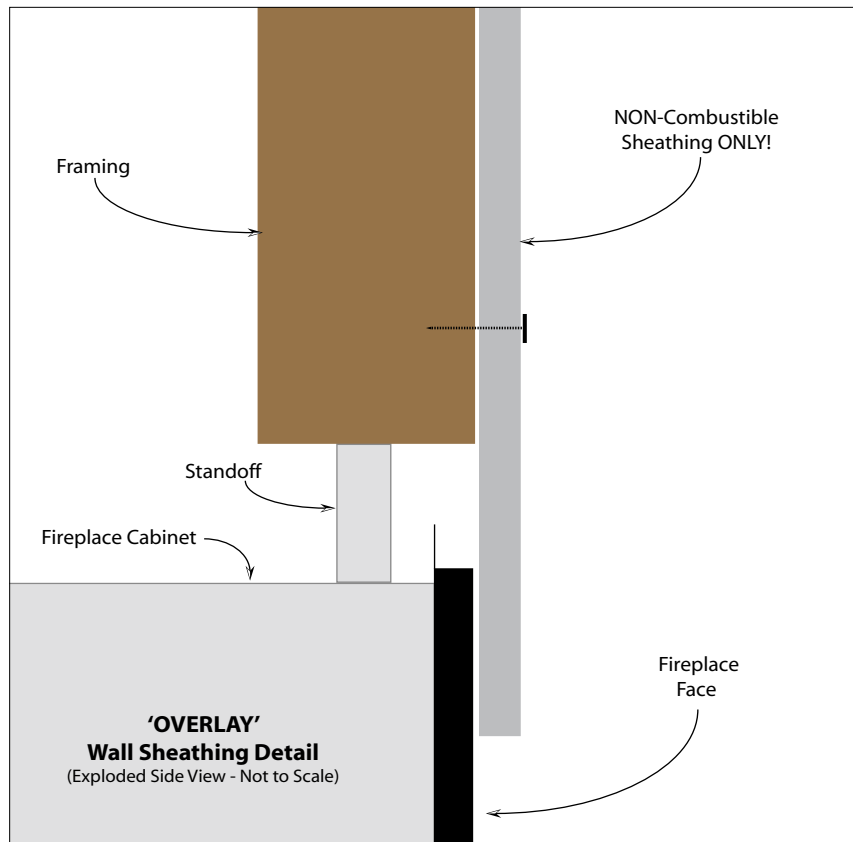

Figure 2
1) The most popular method of finishing your installation is the **Overlay** style (Figure 2.) As the name implies, your **NON-combustible material** *lays* over the metal fireplace trim creating a clean, minimalist look.
As shown in the top view of Figure 1 and the side view of Figure 2, NON-combustible facing is placed to cover the black metal trim of the cabinet. On all four sides of the fireplace opening, this NON-combustible facing can be brought up to, *but not beyond*, the edges of the fireplace opening.